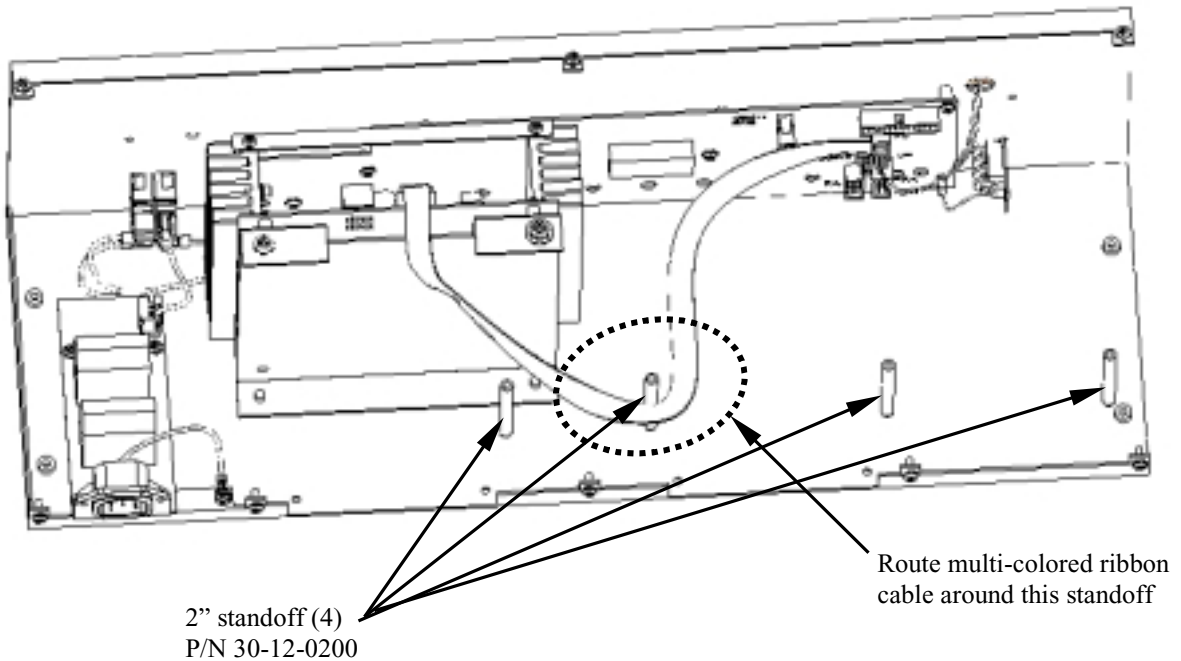

Figure 11
- a. Install four 2" standoffs using 6-32 UNC x 7/16 (P/N 30-00-0607) screws inserted through bottom of Chassis. See figure 11.